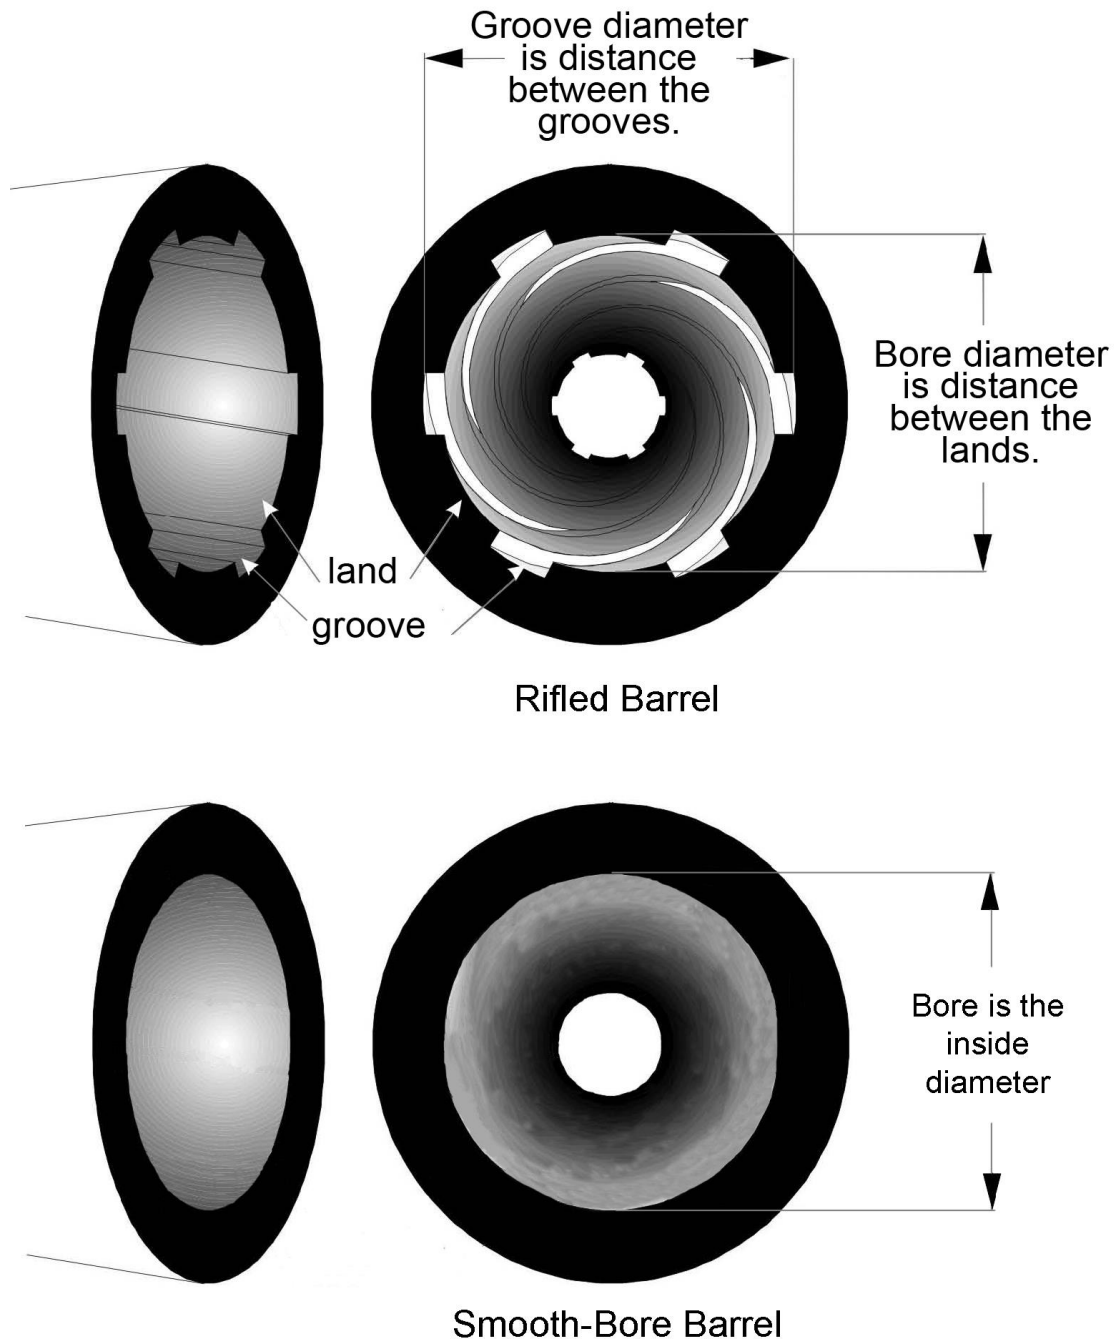

Figure 19. Rifled Bore and Smooth Bore
- a. Rifled barrels have a series of spiral grooves inside the barrel. The ridges of metal between the grooves are called lands. The lands and grooves together make up the rifling (Figure 19).